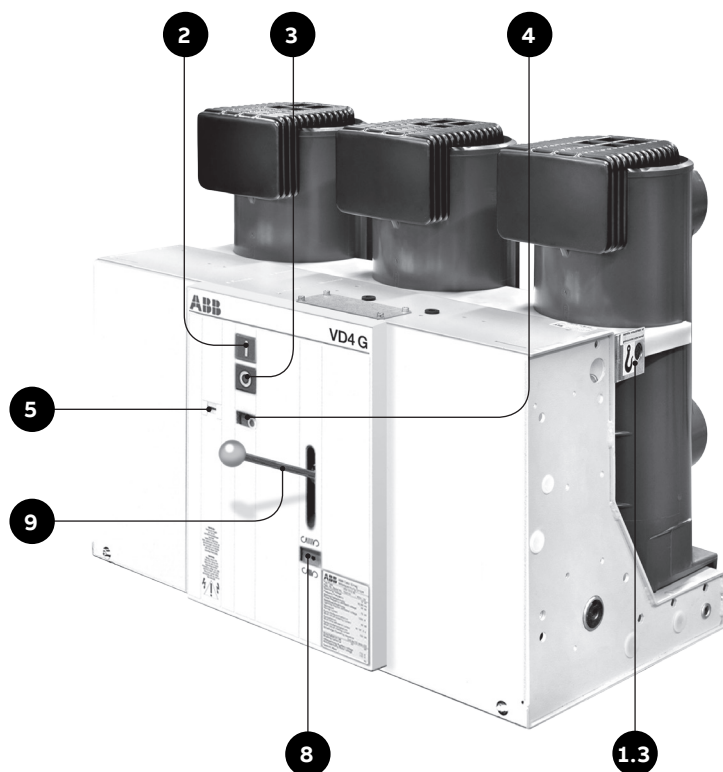

Fig. 8: Operation
- Remove the lifting lugs 1.3 for hoists (Figure 8).